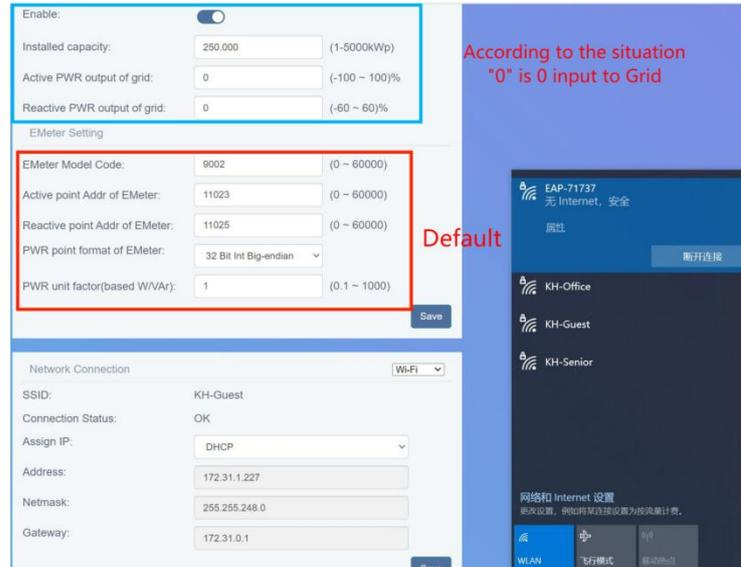

Figure 5-10 E-Manager Pro web setting with smart meter and weather station
- (1) Set the parameters of the smart meter and the weather station in the Smart Device Setting. As shown in the figure 5-10, the red area is consistent, and the address and port of the blue area are input according to the actual situation.
- (2) The zero-export function need be turned on, the total power of the installation need be filled in, and the total power of the control output need be selected.
- (3) Weather station compatible list: